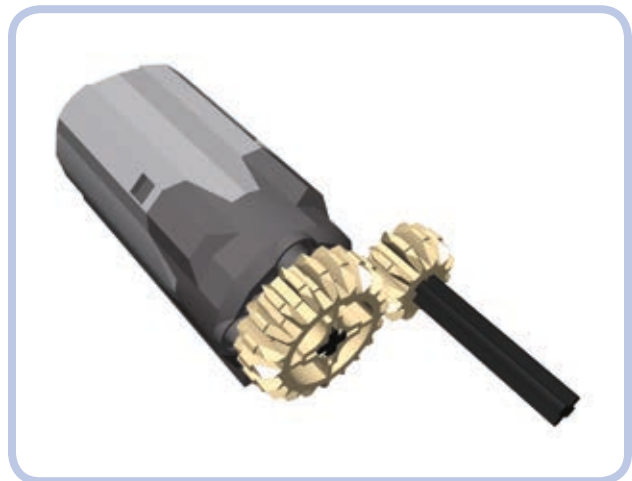

Figure 5-2: Gearing up
- * Driving a small gear with a large gear increases the speed but decreases the torque. This is called *gearing up* (see Figure 5-2).